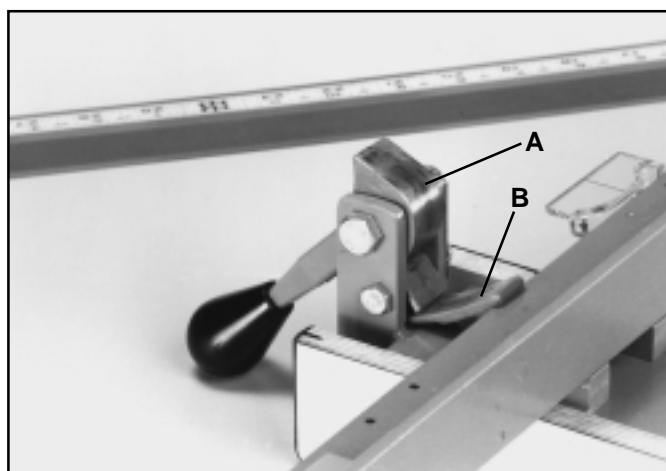

Fig. 33
2. Apply grease to cam lock (A) Fig. 33, and camfoot (B) occasionally to prevent wear.